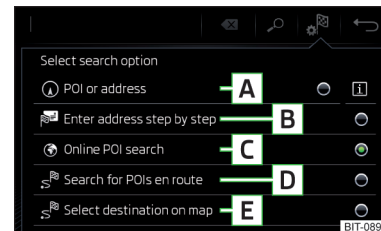

Fig. 183
Function surfaces » Fig. 183
- › Then tap the function surface of one of the menu items for the destination search **A**, **C** or **D** » Fig. 183 on page 147.
- › Then tap the function surface → **B** » Fig. 183 on page 147.
- › Then tap the function surface → **E** » Fig. 183 on page 147.